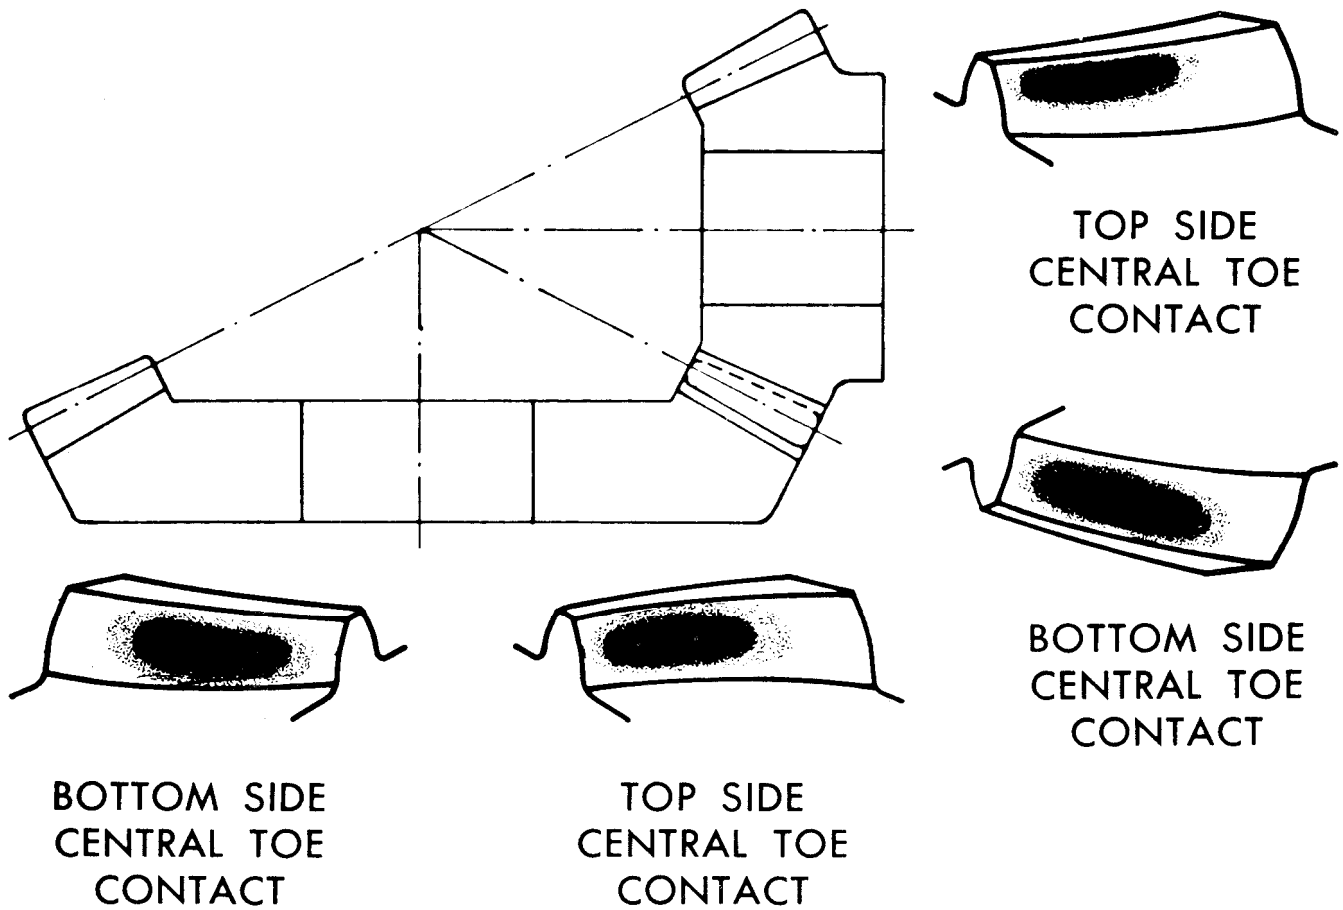

FIGURE 8
- 19.1. The tooth contact pattern must be checked and corrected, if needed, before the backlash is corrected. The correct tooth contact for a gear set is shown in Fig 8. If the tooth contact is correct, proceed to step 20.0.